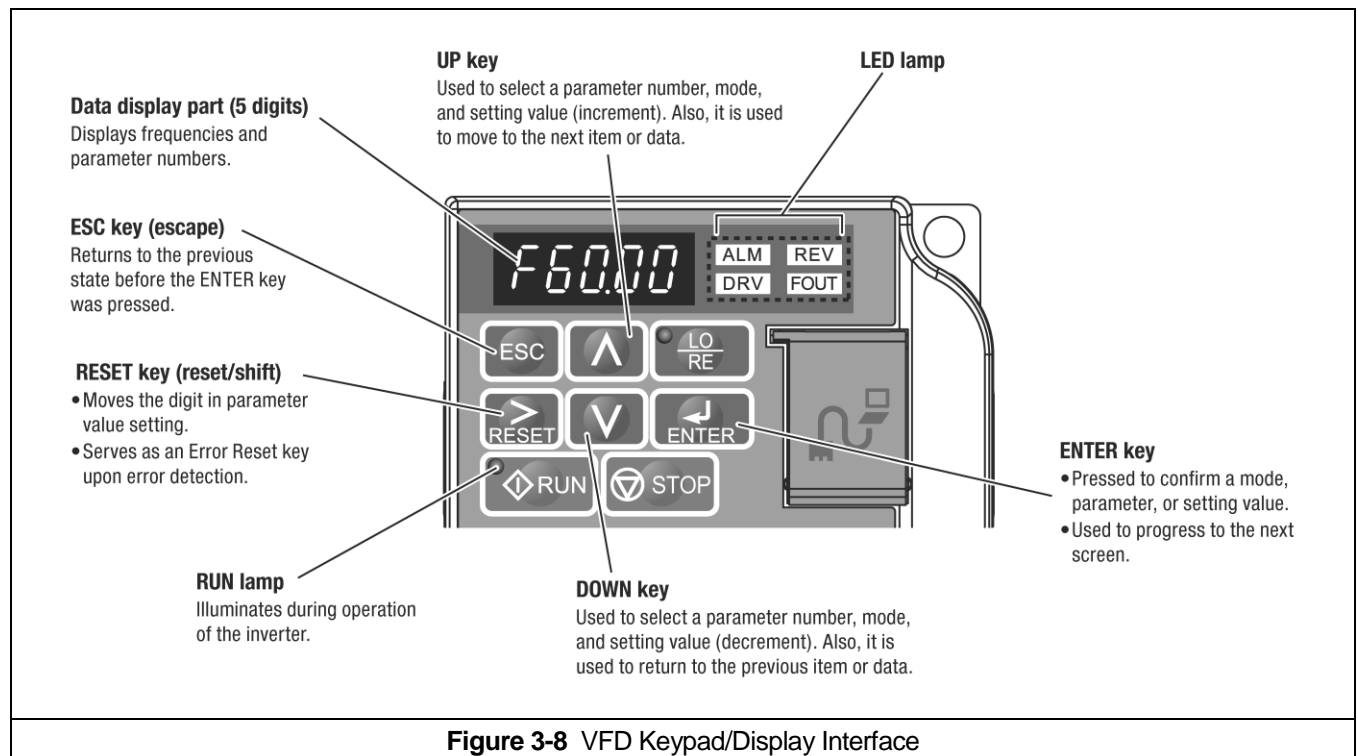

**Figure 3-7** Pendant and Power Supply Cable Connections
- Refer to Figure 3-7.
- For a manual trolley the guide wire should be positioned slightly outside the hoist's Cable Support as shown in Figure 3-7.